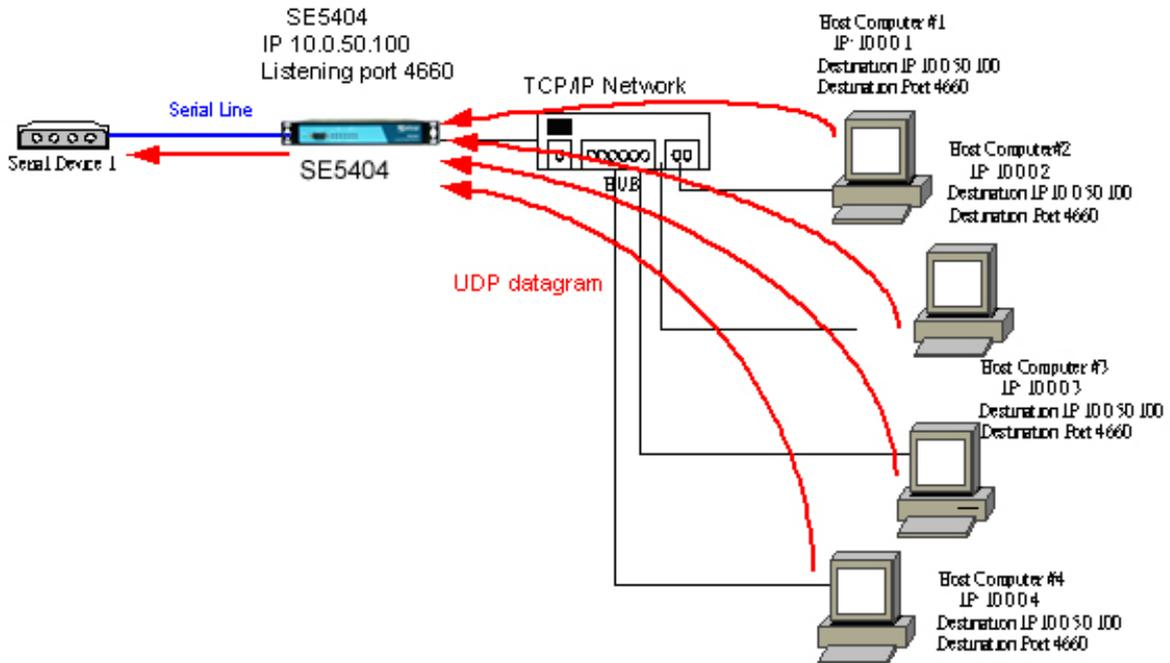

Figure 3.27 Data Transmission in a UDP Slave (server) Mode
- 2. **Slave (Server) Mode** : To establish a connection using unicast data from one or multiple host computer to a serial device.(Figure 3.27)